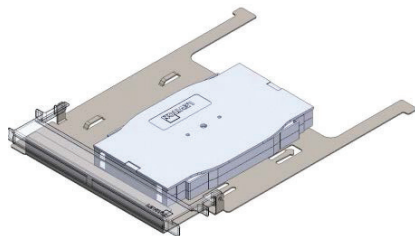

Figure 5
**Splice Tray:** The Splice Deck Tray (Figure 5) allows for the splicing of up to 48 strands of fiber. Up to 2 Injected Molded Splice Trays, Leviton #T5PLS-24F (Figure 6, sold separately) can be located in each Splice Deck Tray with three trays per deck.